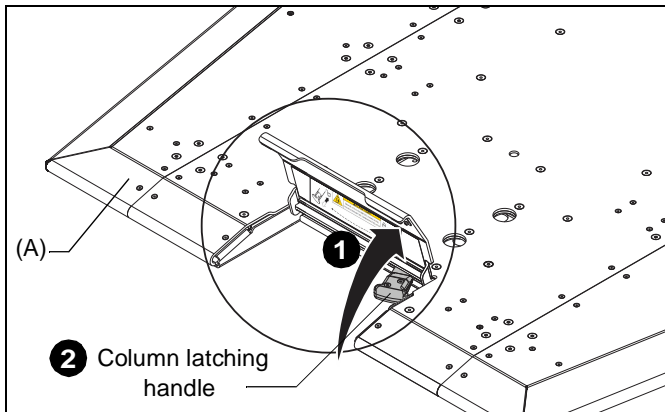

Figure 14
1. Lift cover at center back of base (A). (See Figure 14)
2. Ensure that column latching handle is at far right of opening. (See Figure 14)